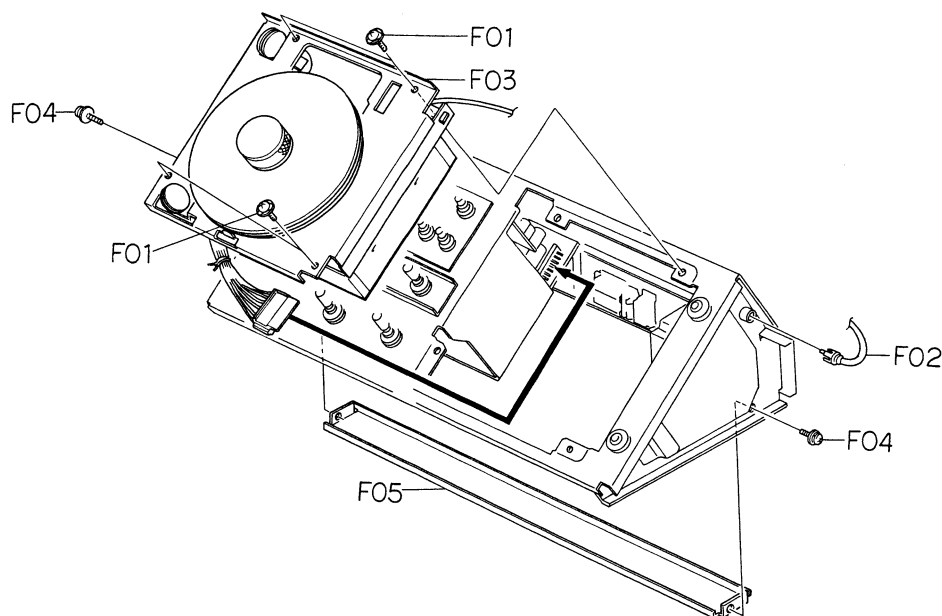

Fig. 3.8
Refer to Fig. 3.8. Remove front panel ass'y referring to item 3.1. Remove F01 (four places) and pull off F02, then remove F03 (tuner ass'y US). Remove F04 (two places), then F05 (rear angle).